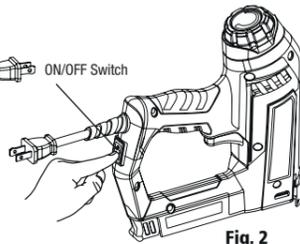

Fig. 2
- Unplug tool, (fig. 1) and place on/off switch in "off" position, (fig. 2).